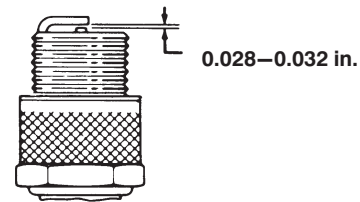

Figure 33
3. Set air gap at 0.028–0.032 in. (Fig. 33). Install correctly gapped spark plug and tighten firmly to 17 ft.-lb.